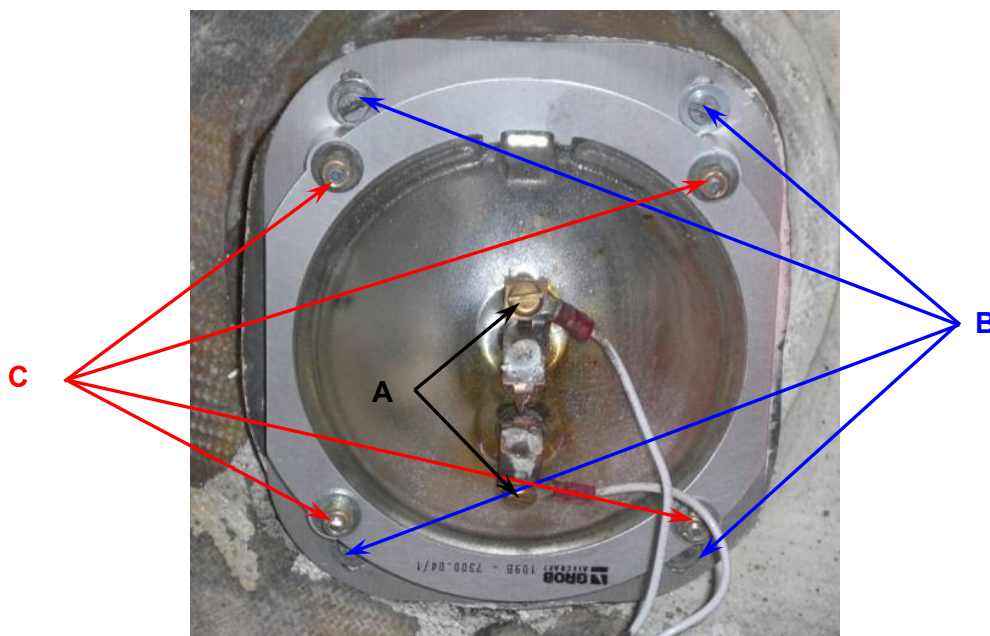

Figure 1 Assembly of original landing light
- 1.8.4 Remove the two terminal screws (refer to Figure 1, item A) and discard them. Release the electrical loom.
- 1.8.5 Remove and keep the four slotted screws (refer to Figure 1, item B) that attach the landing light to the cowling. Remove the landing light from the cowling.
- 1.8.6 Remove and keep the four screws, spacers and nuts (refer to Figure 1, items C) that attaches the clamps to the landing light.